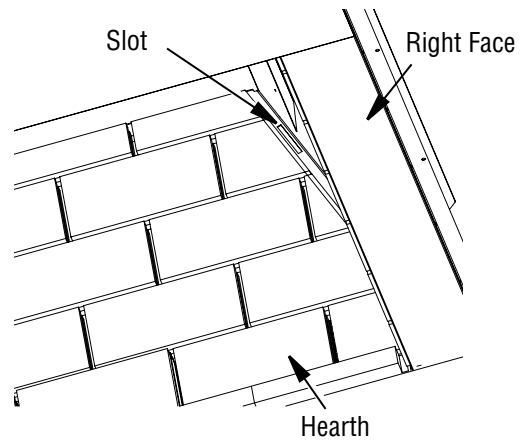

Figure 14 - Slots for Firebrick Walls
3. Install the left and right firebrick walls. There is a bracket with 2 tabs on the bottom of each firebrick wall. Angle the wall into the fireplace opening and into the slots on the side of the hearth (Figure 14), then tilt the top of the panel toward the firebox surround.